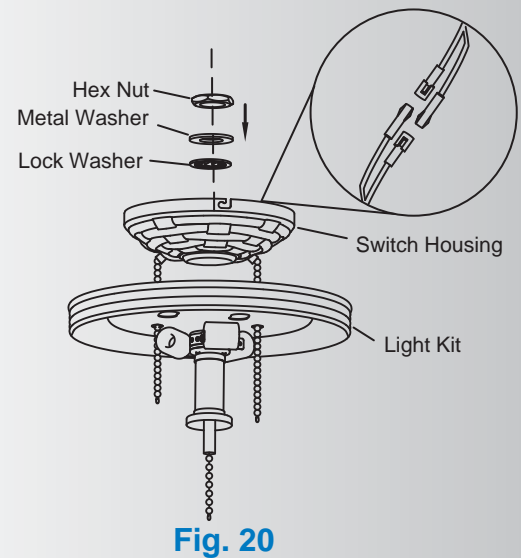

Fig. 20
Step 3. Feed the electrical wires from the light fixture through the hole in the switch housing (starting with the black wire first, it has a larger connector). Feed the two pull chains from switch housing through the holes on each side of the light kit. Threaded the light kit onto the switch housing, add the lock washer and hex nut on the inside of the switch housing and tighten securely. (Fig. 20 on the next page)
Step 4. Connect the black wire connectors from the light fixture and switch housing by pushing them together. Follow the same procedure with the white wire connectors. (Fig. 20 on the next page)